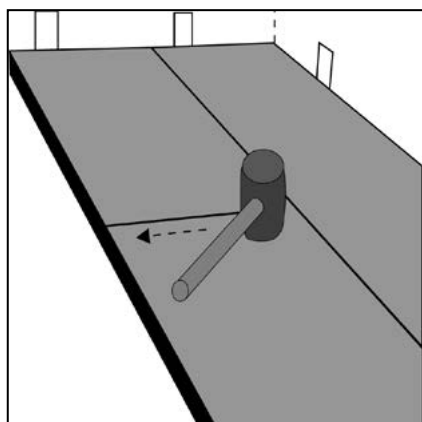

Figure 48 Ensure all joints are fully engaged on the short sides
- ▶ Using the rubber mallet gently tap down the short joints along the short end just installed (Fig 48). If they don't re apply pressure until this is achieved.